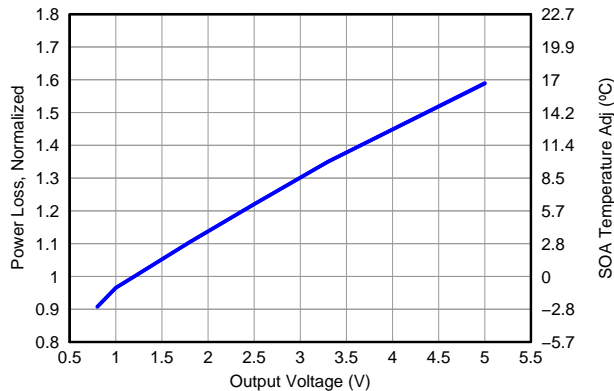

Figure 14. Normalized Power Loss vs Output Voltage
- Normalized Power Loss for output voltage  $\approx$  0.7 (Figure 14)
- SOA adjustment for output voltage  $\approx$  -1.0°C (Figure 14)